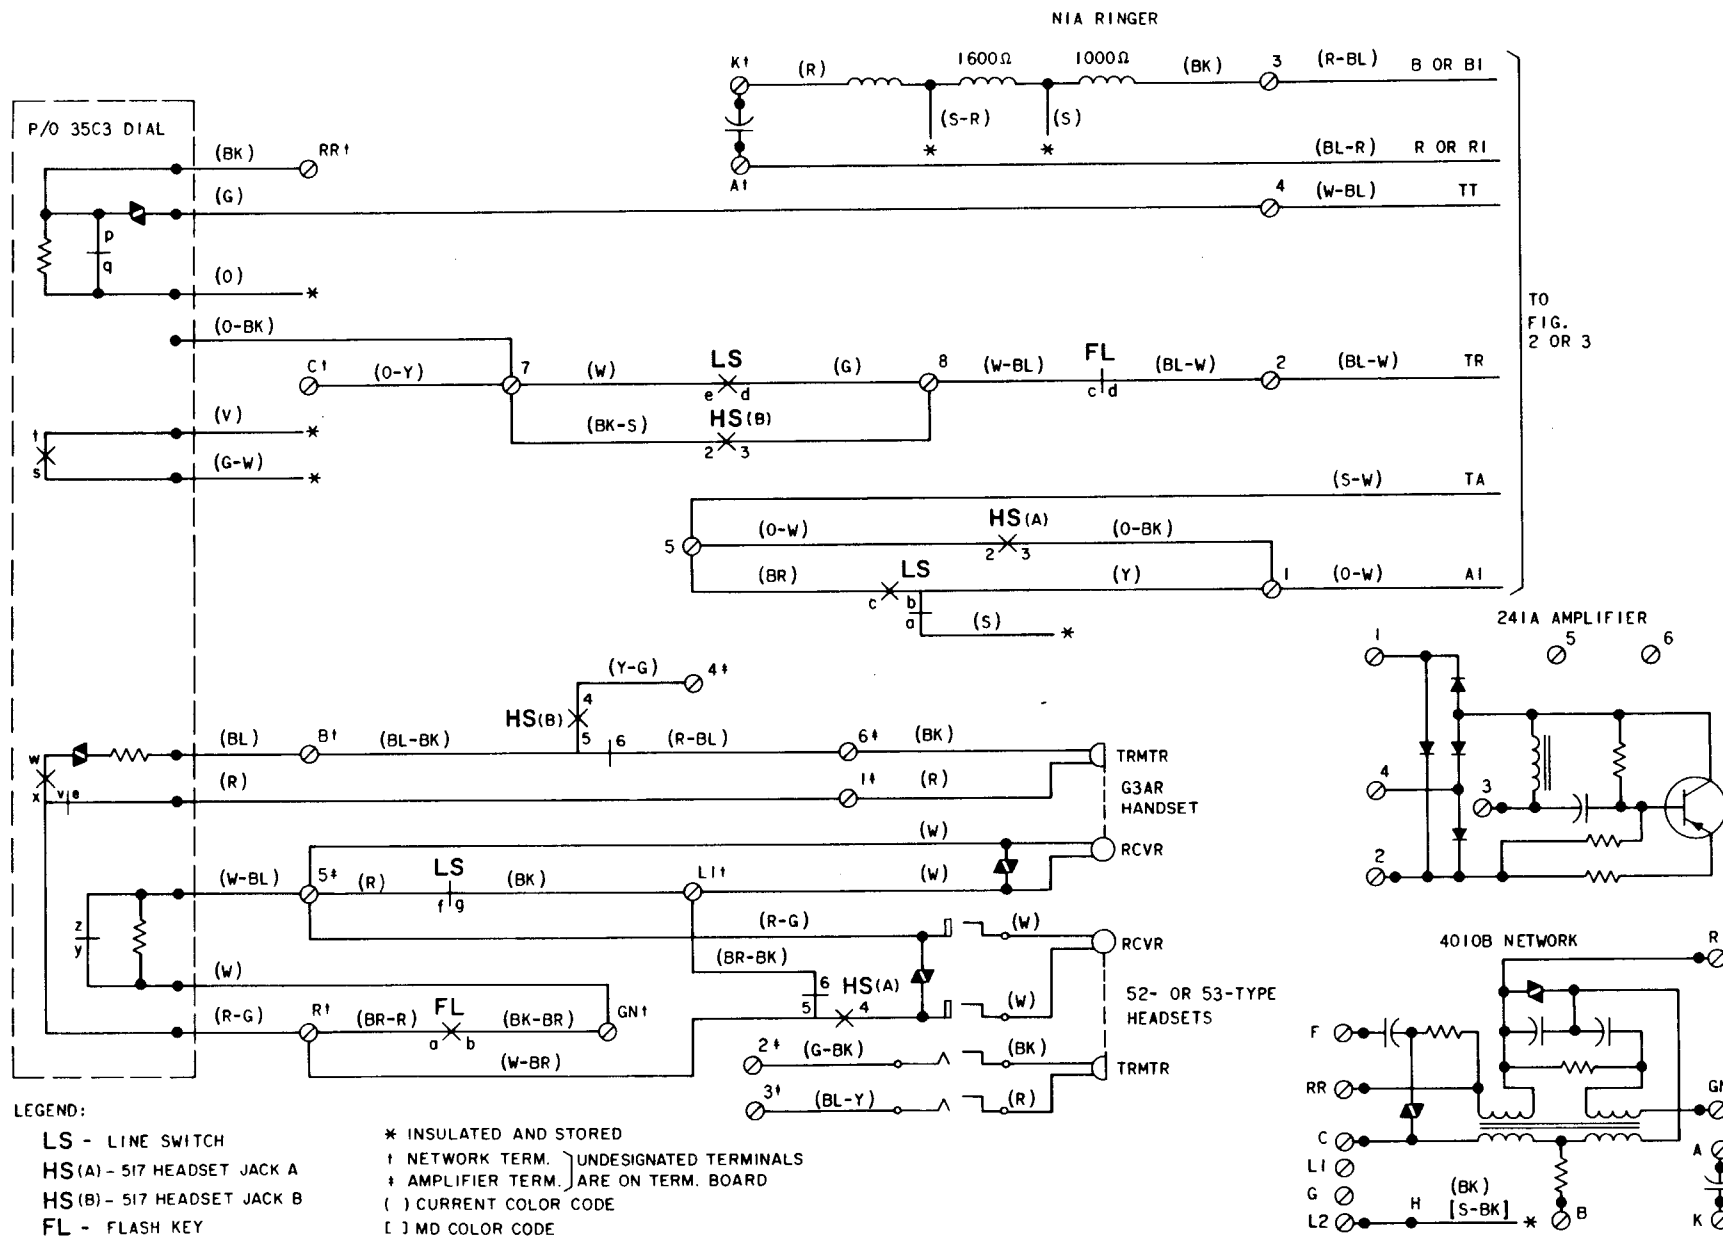

Fig. 1—2638- and 2639-Type Telephone Set, Connections
5. CUTOFF OF THE INTERNAL RINGER CAN BE PROVIDED USING THE 599B OR 657B KEY IN FIRST MODULE. TRANSFER BI LEAD FROM TERMINAL 3 OF TERMINAL BOARD (FIG. 1) TO TERMINAL 6 OF TBI (FIG. 2 OR 3). TRANSFER (R) LEAD FROM TERMINAL 5 OF TBI (FIG. 2 OR 3) TO TERMINAL VACATED BY BI LEAD.